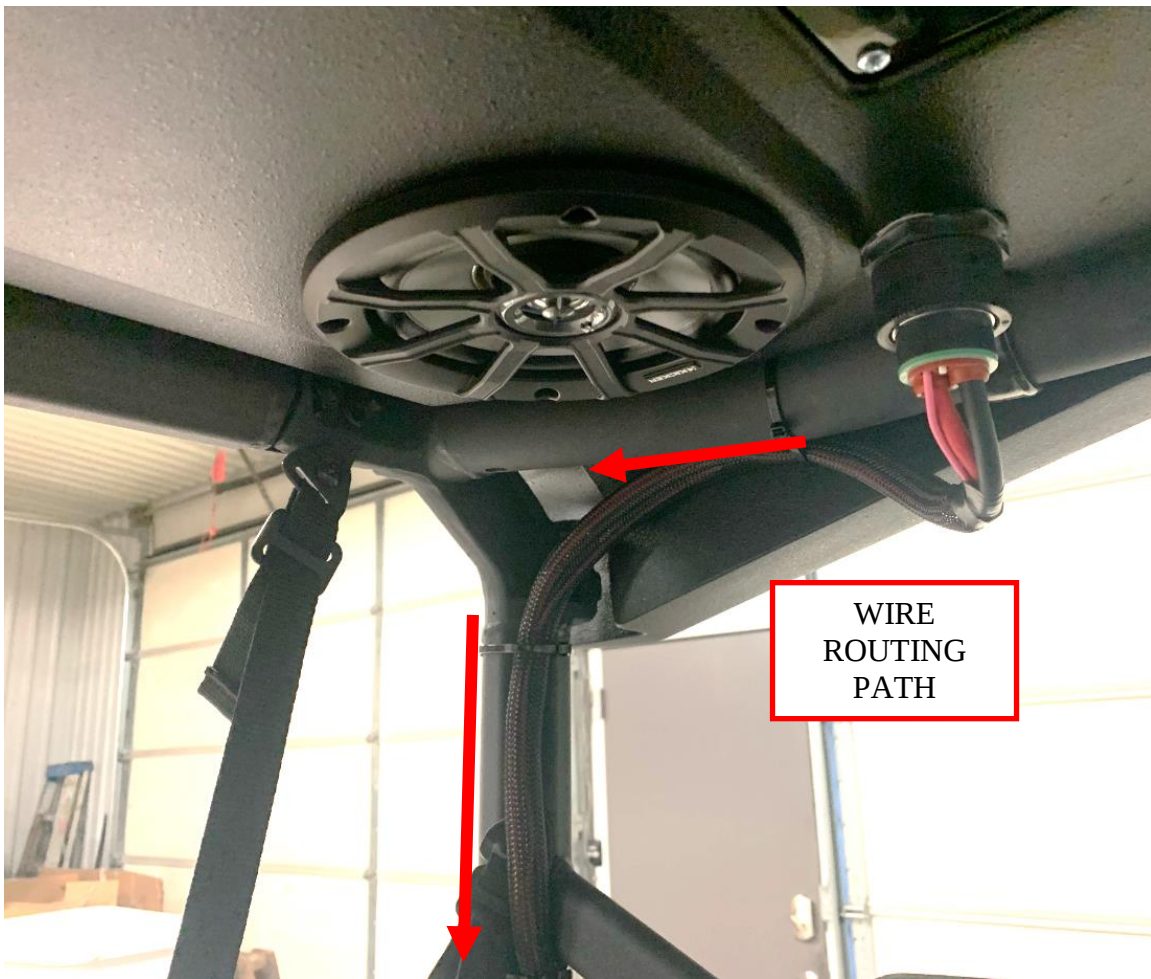

Figure 10: Route the battery cable wiring.
11. Route the chassis wiring harness along the down tube on the passenger's side rear corner of the cage. The ends with the battery terminals extend behind the seat backrest and into the corner of the battery compartment. See Figure 10.